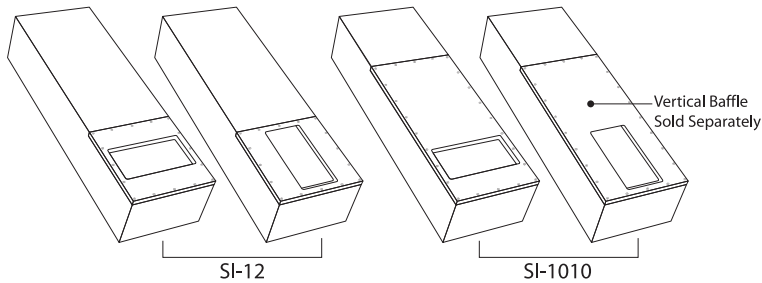

Figure 1
1. The position of the baffle can be set horizontal or vertical for the SI-12 depending on direction of other existing floor vents. The SI-1010 comes standard with a horizontal baffle. A vertical baffle for the SI-1010 may be purchased separately, see figure 1.